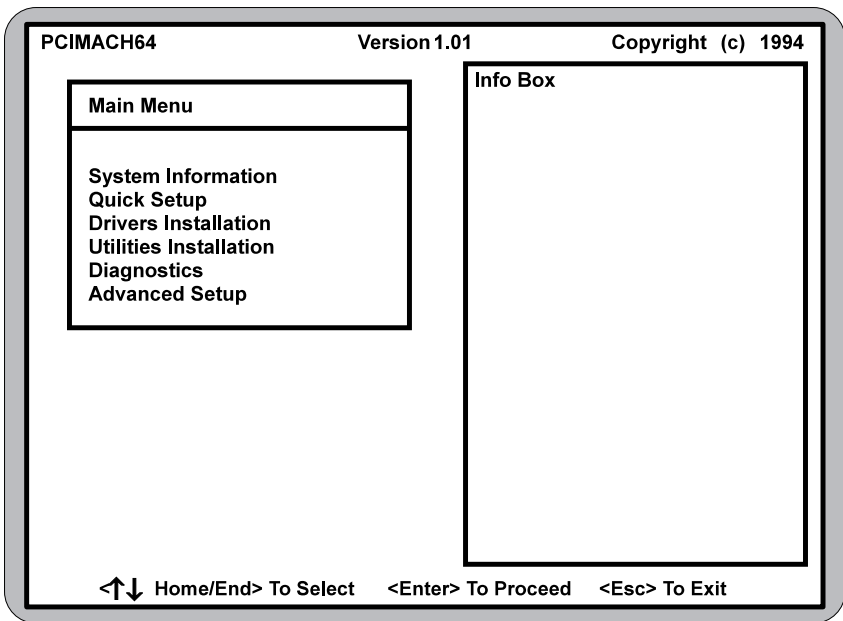

Figure 5-1 Main Menu
4. After the INSTALL program is initialized and loaded, the Main Menu appears (see Figure 5-1).